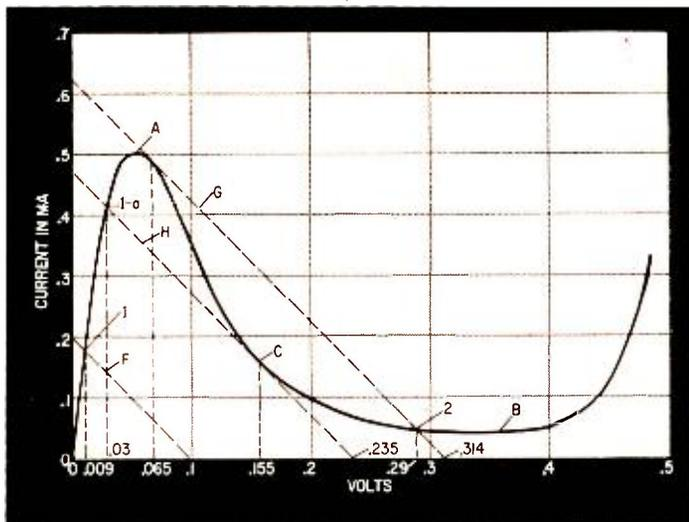
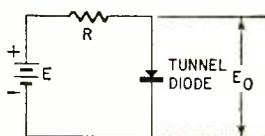
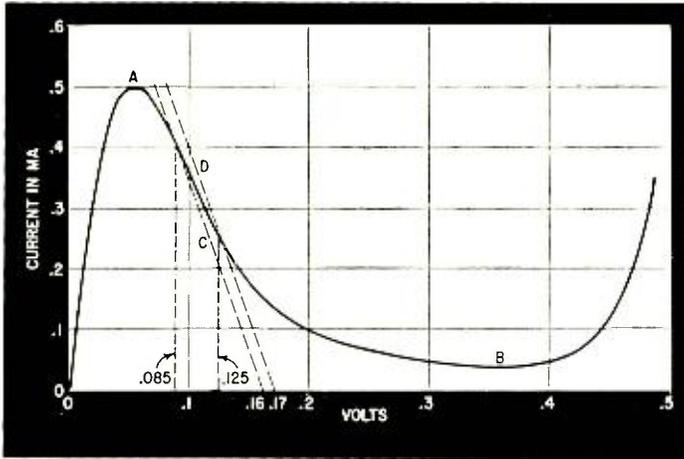

Fig. 2—Tunnel-diode characteristic with load lines for 500-ohm resistor in circuit of Fig. 3.
Fig. 3—Basic tunnel-diode circuit.
Fig. 5—Characteristic and load lines illustrating amplifying property.
it will be useful to first explore some of its electrical properties. It will be convenient, therefore, to refer to the simple series circuit arrangement of Fig. 3. Then, in conjunction with Fig. 2, we will analyze the operation of the tunnel diode.
A current-voltage characteristic of a typical tunnel diode is shown in Fig. 2. The current through it is shown with respect to the voltage E_0 across its terminals. Since the circuit of Fig. 3 is a simple series arrangement, the voltage E_0 at any time is equal to the battery voltage E minus the voltage drop in the resistance R . It would be very useful, therefore, also to know the current flowing in resistance R with respect to the voltage drop in it. Load line F in Fig. 2 shows just this relation and a very useful tool is available from it. The intersection of line F with the voltage axis shows the battery supply voltage E while its intersection with the diode characteristic curve shows the voltage E_0 .
Load line F may be used to represent the resistance R in the circuit of Fig. 3. While the slope of this line is negative and it appears at first that there is a decrease in current with increase in voltage, it must be remembered that the load line F does not show the current flowing in the resistance with respect to the voltage supplied, as is the case for the diode characteristic. Rather, it shows the current flowing with respect to the voltage drop in the resistance. For this reason, this negative slope is not to be confused with the negative-resistance region ($A-B$) of the diode characteristic.
For the condition shown, $E = 0.1$ volt, $E_0 = .009$ volt and the current is 0.18 ma. Therefore, with the above values, the point of operation of the diode (for the circuit of Fig. 3), will be as shown at 1 in Fig. 2. Although the slope of this load line is fixed by the resistance R in the circuit of Fig. 3, a change in the battery supply voltage will change its location with respect to the current-voltage characteristic.
Load line J in Fig. 4 (using the circuit of Fig. 3) represents a value of resistance much higher than the negative resistance of the diode. Notice that this load line intersects the characteristic in both positive resistance regions. Thus there are two stable operating points for a single battery voltage E. The voltage across the diode can be either that corresponding to point 1 or that corresponding to point 2.
Such a load line is shown as C in Fig. 5. It always has only one intersection with the diode characteristic, making it possible to have an average bias in the negative-resistance region. The slope of region A-B for a typical germanium tunnel diode having a peak current at point A of about 1 ma is about -100. Hence its negative resistance will be 100 ohms.
Now how can the tunnel diode amplify? Refer to Fig. 3 again and assume that the diode is biased somewhere between the points A and B and has a load line such as shown at C on the characteristic of Fig. 5 so that it looks like a negative resistance. This negative resistance is indicated as (-R_o). Then:
From equation (1) we see that the gain is 1 when R = 0 and increases to a very large value as R approaches (-R_o). This is shown graphically in Fig. 5. Lines C and D correspond to a resistance R of 150 ohms and battery voltages of 0.16 and 0.17 volts, or a change of .01 volt. At the same time we see that the voltage across the tunnel diode is .085 and 0.125 volt, respectively, or a change of .04 volt.